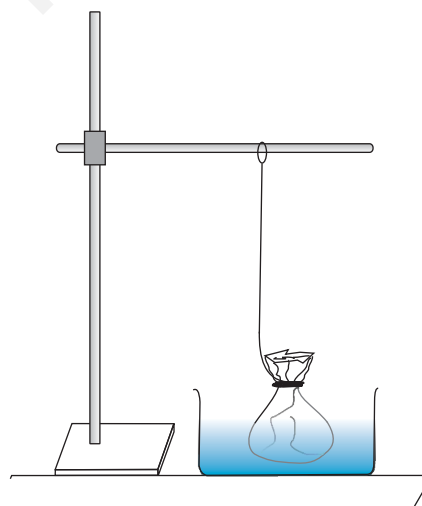

Fig. 1.1 : Purification of a colloid
- Tie the cone with a thread and suspend it in a trough containing distilled water as shown in Fig. 1.1.